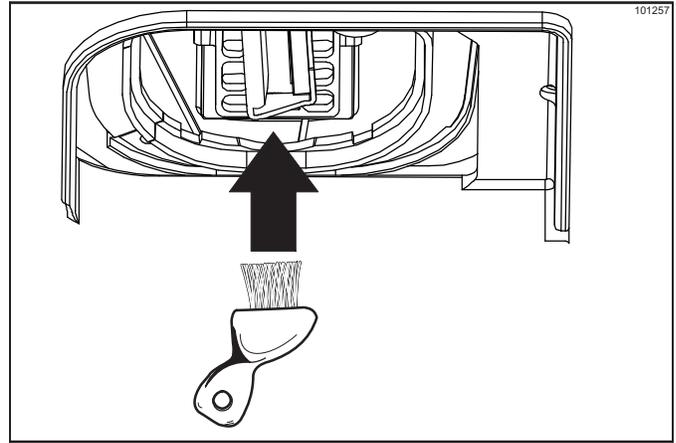

Figure 6-17
26. Repeatedly dip the spout brush into the pail of cleaning/sanitizing solution and very carefully brush-clean the shaver assembly blade and surrounding area. (See Figure 6-17.)